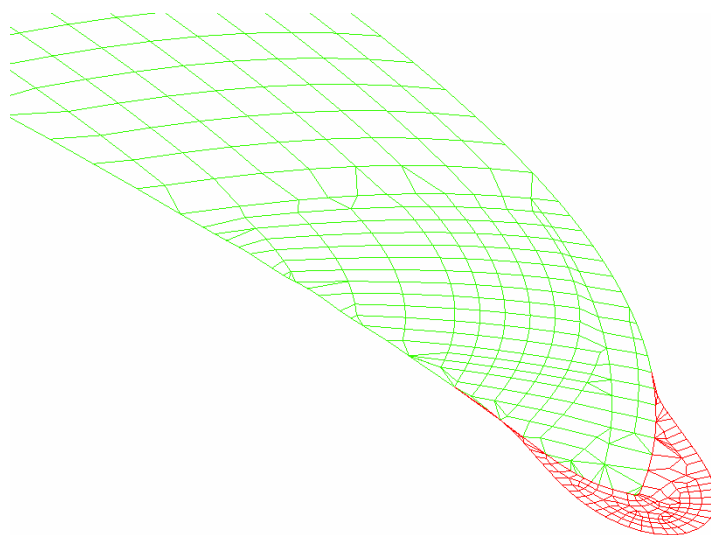

Figure 6.1.44 Corner Smooth
3. After a node is selected at a sharp corner, eta/DYNAFORM will generate a set of elements around the part boundary to create a circular shape to smooth the edge. Figure 6.1.44 illustrates a typical result of a corner smooth operation.